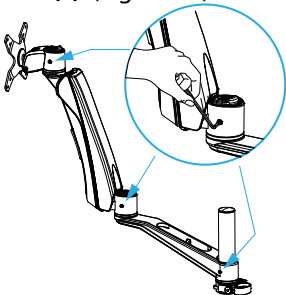

Figure 19
1. Use the **Hex Key** to **Loosen** or **Tighten** the **Tension Adjustment Screw(s)**. (Figure 19)